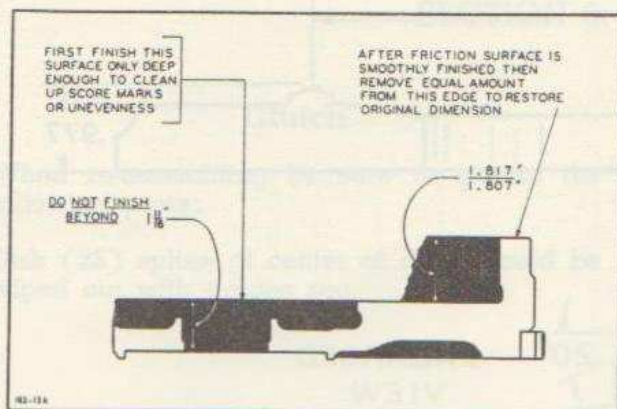

Fig. 11—Resurfacing Flywheel
If it becomes necessary to machine the flywheel (27) to the extent of having the thickness from flywheel bolting face to friction surface, as illustrated in Figure 11, become less than 1-11/16" the flywheel must be replaced with a new part. Failure to observe this precaution will usually result in greatly shortened clutch disk facing (21) life and damage to the clutch pilot bearing (19).